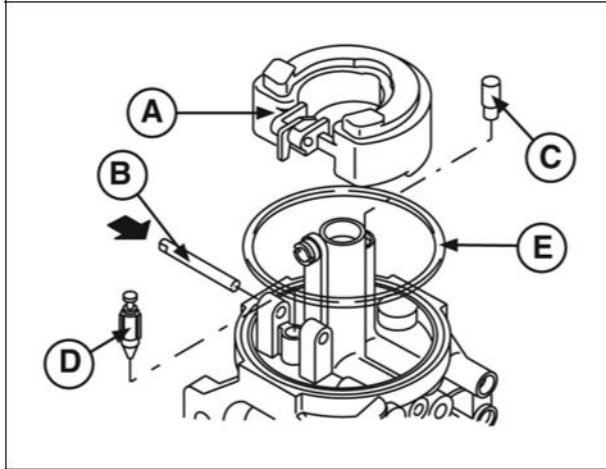

Figure 48
12. Install float. Assemble inlet valve to float (A, Figure 48).
13. Install float hinge pin (B), idle passage plug (C), fixed main jet with new gasket (D), and new bowl gasket (E).